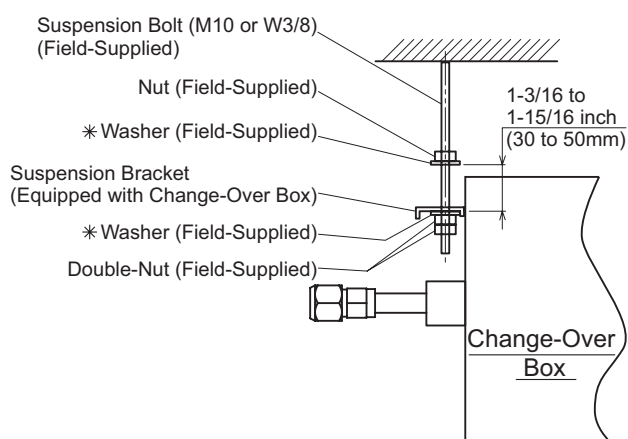

Figure 4.4 Suspension
- (1) Put nuts on each of the two suspension bolts before hanging the Change-Over Box, as shown in Figure 4.4.